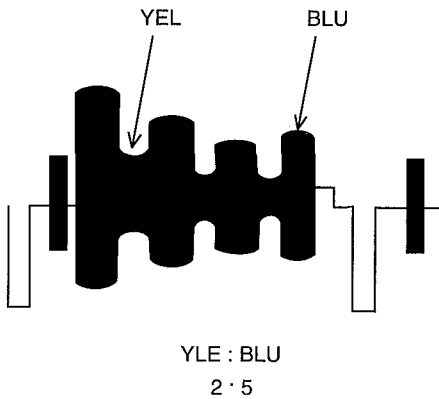

Fig. 2-2
(2) Matrix Adjustment (Fig. 2-2)